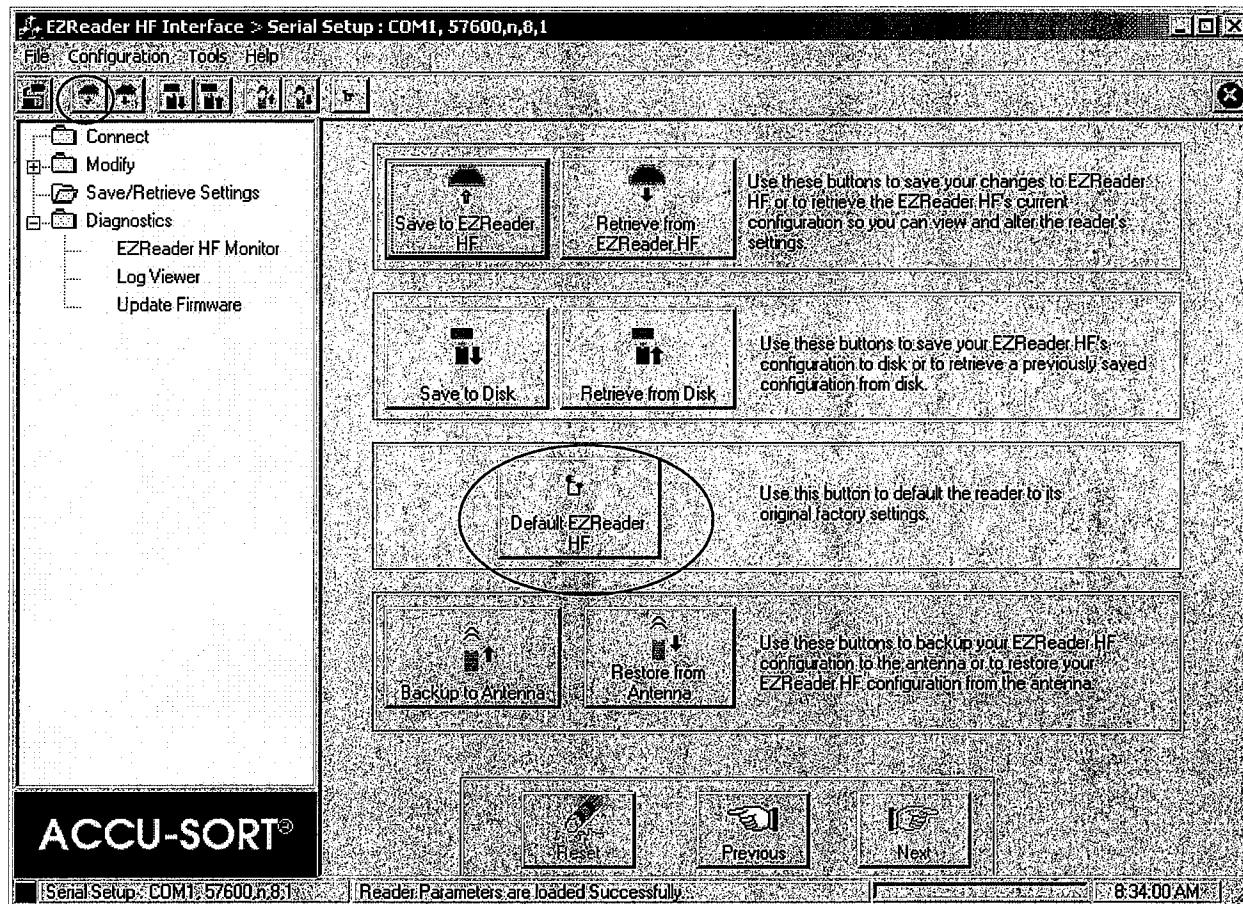

Figure 30
9.29 Go to the Save/Retrieve Screen of the GUI and click the 'Default EZReader HF Button' after setting the defaults click the SAVE ICON. See Figure 30 for reference.